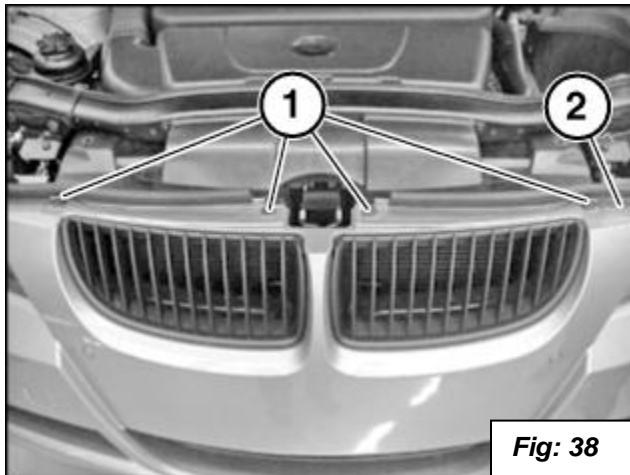

Fig: 38
49. Fasten the top screws (1) as shown in **figure 38** and the side screws (2) as shown in **figure 39**.